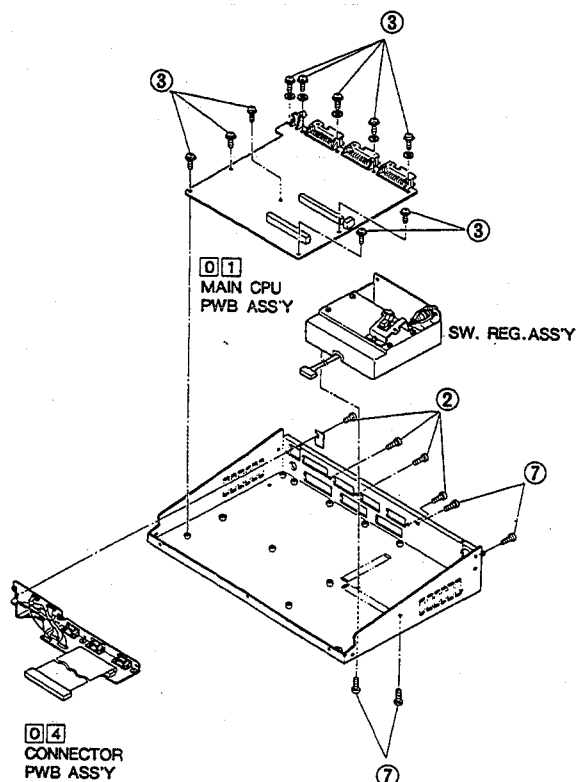

Fig. 1-2
Remove 4 screws (7). Refer to Fig. 1-2.